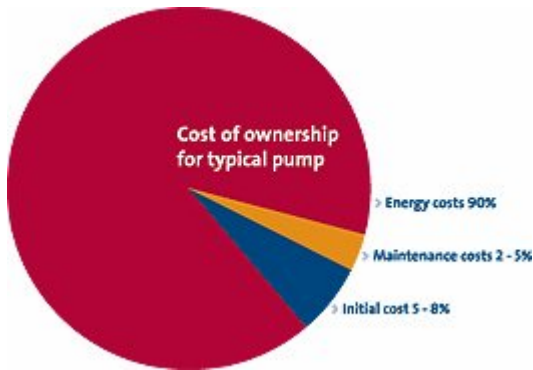

Fig. 1: Typical Lifecycle model for an industrial pump (Source: www.bpma.org.uk)
- According to progressive Lifecycle Cost models, electricity use during the lifetime of a pump accounts for up to 90% of the ownership cost. Capital expenditure accounts for around 5% and maintenance between 5 and 25%, depending on the pumped product's abrasiveness (Fig.1).